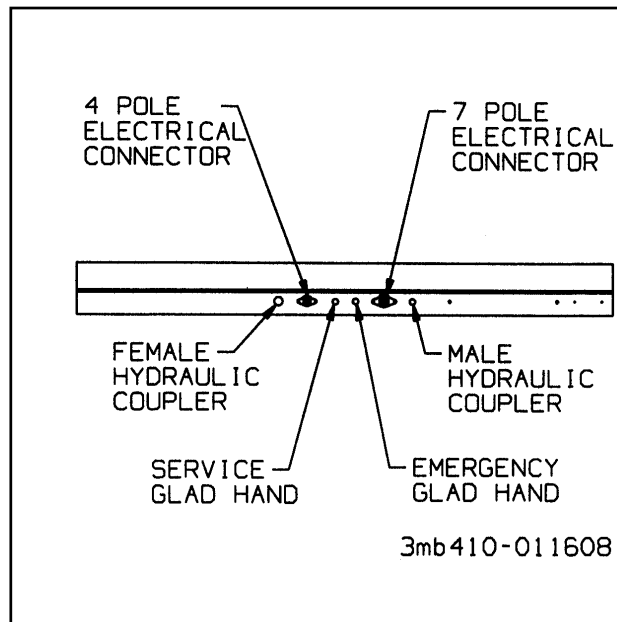

Figure 3-1 Service Hookups (Front View)
3-2.3 Connect the service and emergency air hoses of the tractor to their respective gladhand on the front of the semitrailer. The tractor's air hose couplings are then attached and locked to the appropriate gladhands; the red emergency line to the gladhand with the "**EMERGENCY**" tag, and the blue service line to the gladhand with the "**SERVICE**" tag (See **Figure 3-1**). Chock the semitrailer wheels before activating the semitrailer air supply valve in the tractor. Set the semitrailer brakes.
- 3-4.1** Connect the tractor 7-pole electrical plug to the electrical receptacle on the front of the semitrailer (**See Figure 3-1**).
- 3-4.2** Connect the 4-pole electrical cable from the over-the-cab deck (331) to the semitrailer 4 pole electrical receptacle.